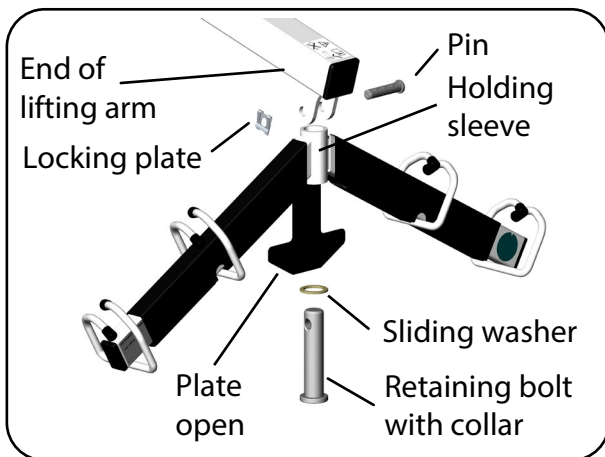

Fig. 6.2.07 - Assembly of the spreader bar
10. To mount the spreader bar, open the bar padding (plate). Remove the locking plate and then remove the pin from the hole on the end of the lifting arm. This separates the retaining bolt with collar from the lifting arm (Fig. 6.2.07).
12. Then insert the retaining bolt with collar together with the sliding washer from below through the holding sleeve of the spreader bar (Fig. 6.2.07). The sliding washer lies on the collar of the retaining bolt.